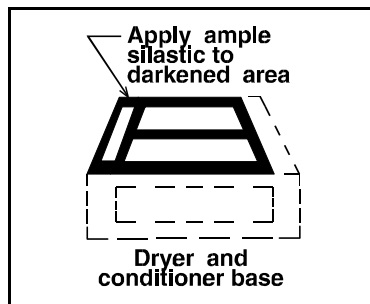

FIGURE 1 (MSIN0108AE)
5. Apply **high temperature silastic** (provided with dryers and conditioners) to the top inside edge of the three base openings as shown below (FIGURE 1).